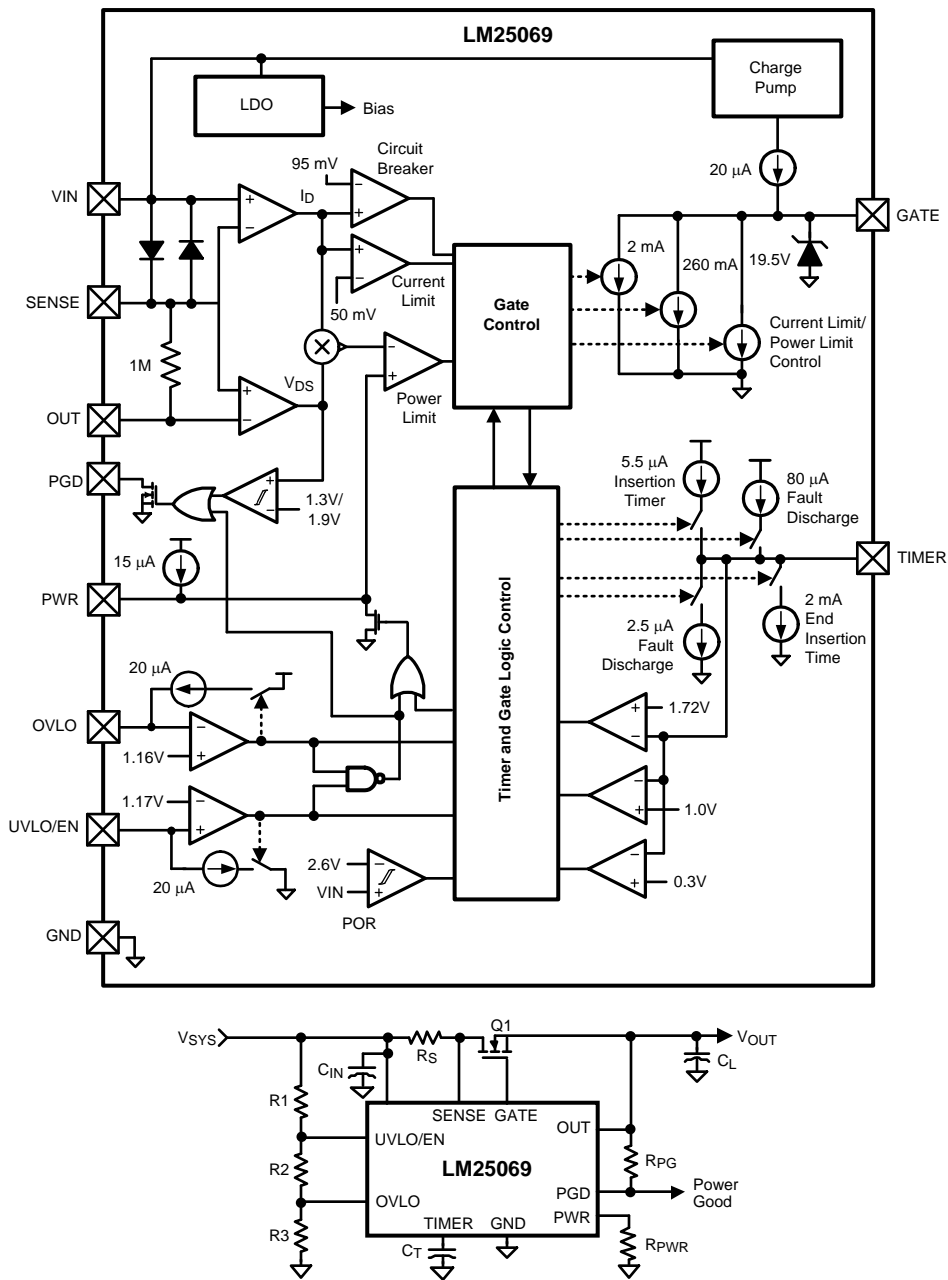
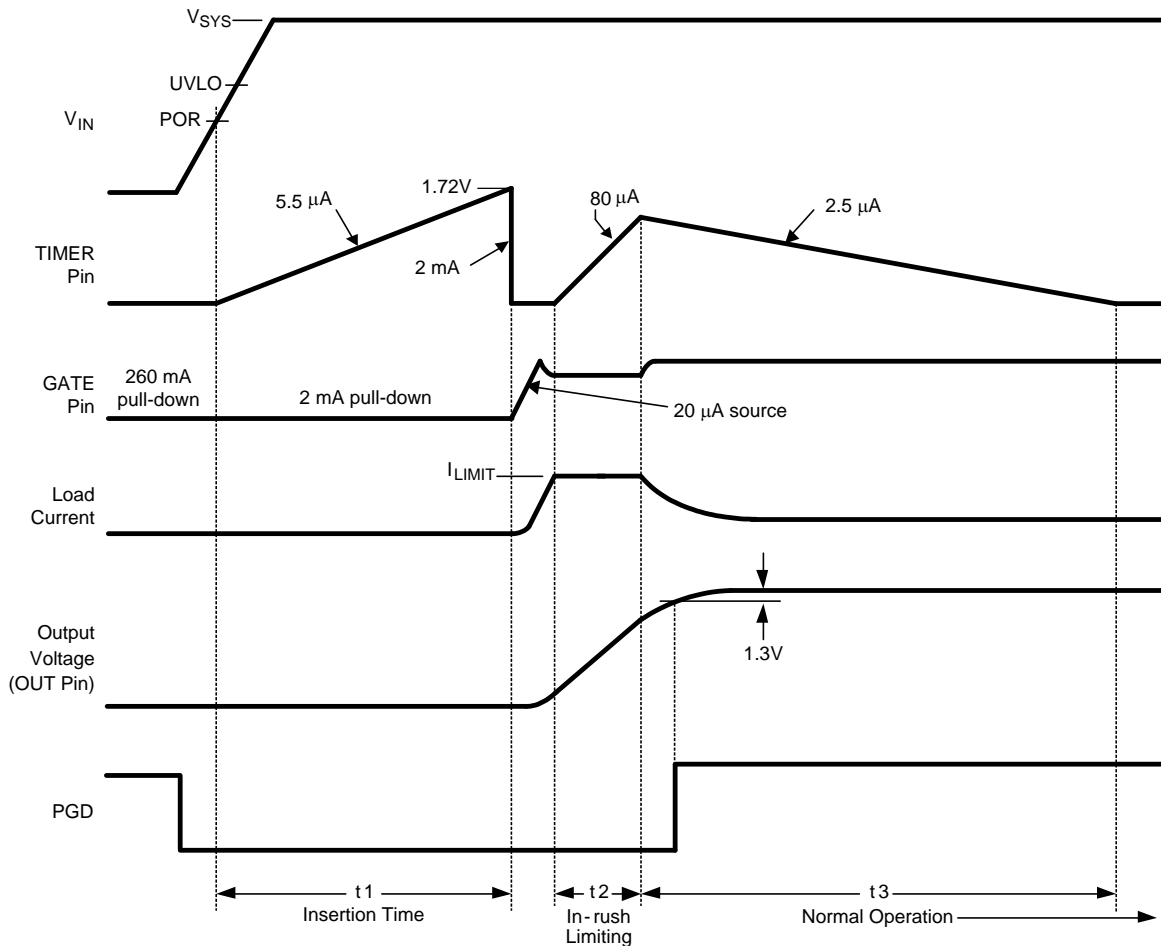

Figure 21. Basic Application Circuit
Figure 23. Power Up Sequence (Current Limit only)
The VIN operating range of the LM25069 is +2.9V to +17V, with a transient capability to 20V. Referring to the Block Diagram and Figure 21 and Figure 23, as the voltage at VIN initially increases, the external N-channel MOSFET (Q1) is held off by an internal 260 mA pull-down current at the GATE pin. The strong pull-down current at the GATE pin prevents an inadvertent turn-on as the MOSFET's gate-to-drain (Miller) capacitance is charged. Additionally, the TIMER pin is initially held at ground. When the VIN voltage reaches the POR threshold the insertion time begins. During the insertion time, the capacitor at the TIMER pin (C_T) is charged by a 5.5 μ A current source, and Q1 is held off by a 2 mA pull-down current at the GATE pin regardless of the VIN voltage. The insertion time delay allows ringing and transients at VIN to settle before Q1 is enabled. The insertion time ends when the TIMER pin voltage reaches 1.72V. C_T is then quickly discharged by an internal 2 mA pull-down current. The GATE pin then switches on Q1 when V_{SYS} exceeds the UVLO threshold. If V_{SYS} is above the UVLO threshold at the end of the insertion time, Q1 switches on at that time. The GATE pin charge pump sources 20 μ A to charge Q1's gate capacitance. The maximum voltage at the GATE pin is limited by an internal 19.5V zener diode.
As the voltage at the OUT pin increases, the LM25069 monitors the drain current and power dissipation of MOSFET Q1. In-rush current limiting and/or power limiting circuits actively control the current delivered to the load. During the in-rush limiting interval (t_2 in Figure 23) an internal 80 μ A fault timer current source charges C_T . If Q1's power dissipation and the input current reduce below their respective limiting thresholds before the TIMER pin reaches 1.72V the 80 μ A current source is switched off, and C_T is discharged by the internal 2.5 μ A current sink (t_3 in Figure 23). The in-rush limiting interval is complete when the voltage at the OUT pin increases to within 1.3V of the input voltage (V_{SYS}), and the PGD pin switches high.
A charge pump provides the voltage at the GATE pin to enhance the N-Channel MOSFET's gate. During normal operating conditions (t3 in Figure 23) the gate of Q1 is held charged by an internal 20 µA current source. The voltage at the GATE pin (with respect to ground) is limited by an internal 19.5V zener diode. See the graph GATE Pin voltage. Since the gate-to-source voltage applied to Q1 could be as high as 19.5V during various conditions, a zener diode with the appropriate voltage rating must be added between the GATE and OUT pins if the maximum V_{GS} rating of the selected MOSFET is less than 19.5V. The external zener diode must have a forward current rating of at least 260 mA.
During the insertion time (t1 in Figure 23) the GATE pin is held low by a 2 mA pull-down current. This maintains Q1 in the off-state until the end of t1, regardless of the voltage at VIN or UVLO.
Following the insertion time, during t2 in Figure 23, the gate voltage of Q1 is modulated to keep the current or power dissipation level from exceeding the programmed levels. While in the current or power limiting mode the TIMER pin capacitor is charging. If the current and power limiting cease before the TIMER pin reaches 1.72V the TIMER pin capacitor then discharges, and the circuit enters normal operation.
The series pass MOSFET (Q1) is enabled when the input supply voltage (V_{SYS}) is within the operating range defined by the programmable under-voltage lockout (UVLO) and over-voltage lock-out (OVLO) levels. Typically the UVLO level at V_{SYS} is set with a resistor divider (R1-R3) as shown in Figure 21. Referring to the Block Diagram when V_{SYS} is below the UVLO level, the internal 20 μ A current source at UVLO is enabled, the current source at OVLO is off, and Q1 is held off by the 2 mA pull-down current at the GATE pin. As V_{SYS} is increased, raising the voltage at UVLO above its threshold the 20 μ A current source at UVLO is switched off, increasing the voltage at UVLO, providing hysteresis for this threshold. With the UVLO pin above its threshold, Q1 is switched on by the 20 μ A current source at the GATE pin if the insertion time delay has expired. See the Applications Section for a procedure to calculate the values of the threshold setting resistors (R1-R3). The minimum possible UVLO level at V_{SYS} can be set by connecting the UVLO pin to VIN. In this case Q1 is enabled after the insertion time.
Application Information (Refer to Figure 21)
A) Insertion Delay - Upon applying the system voltage (V_{SYS}) to the circuit, the external MOSFET (Q1) is held off during the insertion time (t₁ in Figure 23) to allow ringing and transients at V_{SYS} to settle. Since each backplane's response to a circuit card plug-in is unique, the worst case settling time must be determined for each application. The insertion time starts when VIN reaches the POR threshold, at which time the internal 5.5 μA current source charges C_T from 0V to 1.72V. The required capacitor value is calculated from: